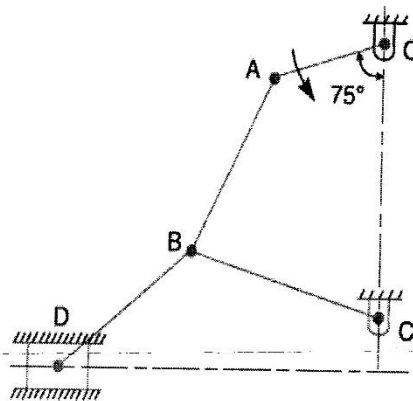

Fig.3, Q.2 (c) OR
- (c) In Fig. 3, the angular velocity of the crank OA is 600 r.p.m. Determine the linear velocity of the slider D and the angular velocity of the link BD, when the crank is inclined at an angle of  $75^\circ$  to the vertical. The dimensions of various links are : OA = 28 mm ; AB = 44 mm ;BC= 49 mm ; and BD = 46 mm. The centre distance between the centres of rotation O and C is 65 mm. The path of travel of the slider is 11 mm below the fixed point C. The slider moves along a horizontal path and OC is vertical. **07**